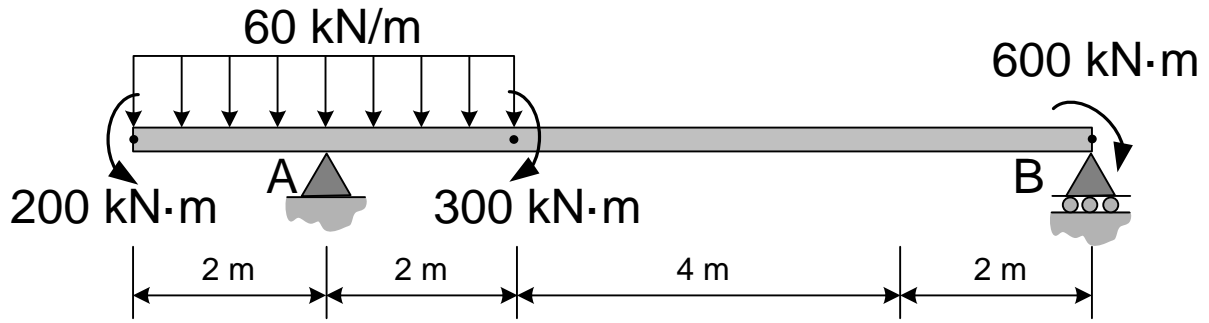

Figure 1
1. For the simply-supported beam illustrated in Fig. 1: